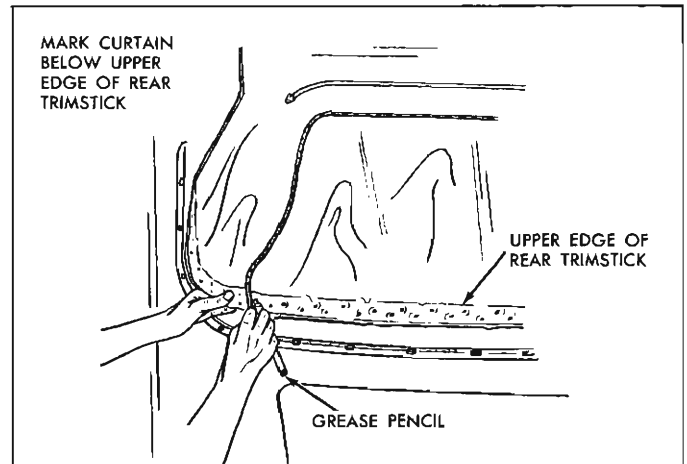

Fig. 77—Locating Edge of Top Material
5. To establish the relationship of right and left inner vertical edge of old top material to back curtain assembly at rear trim stick location, mark back curtain vinyl at both locations with a grease pencil (fig. 77). Reference marks should be transferred to new back curtain when Step 5 of installation procedure is performed.